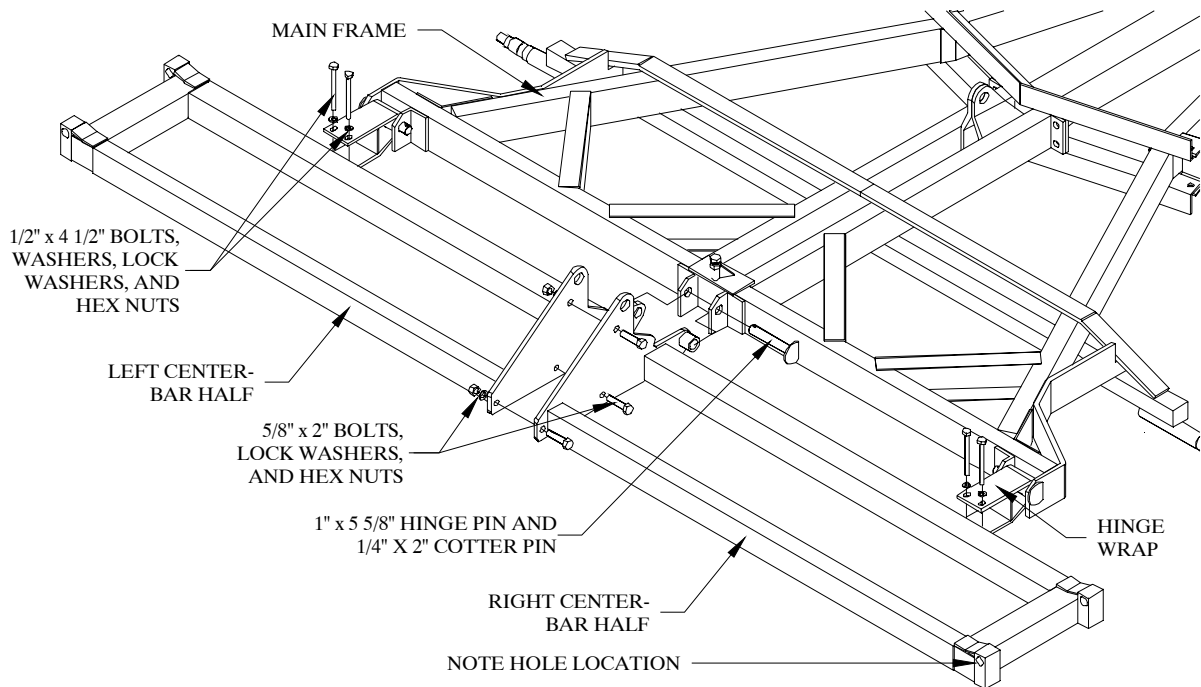

Figure 3
1. The center bar is shipped in two pieces. Bolt the halves together using four 5/8" x 2" bolts, lock washers, and hex nuts. Refer to Figure 3. Check the alignment of the halves before completely tightening the bolts.
2. Position the center bar as shown in Figure 3 on the previous page. Be sure it is centered between the hinge wraps. Use four 1/2" x 5" bolts, lock washers, hex nuts, and eight flat washers to attach the center bar assembly to the hinge wraps.